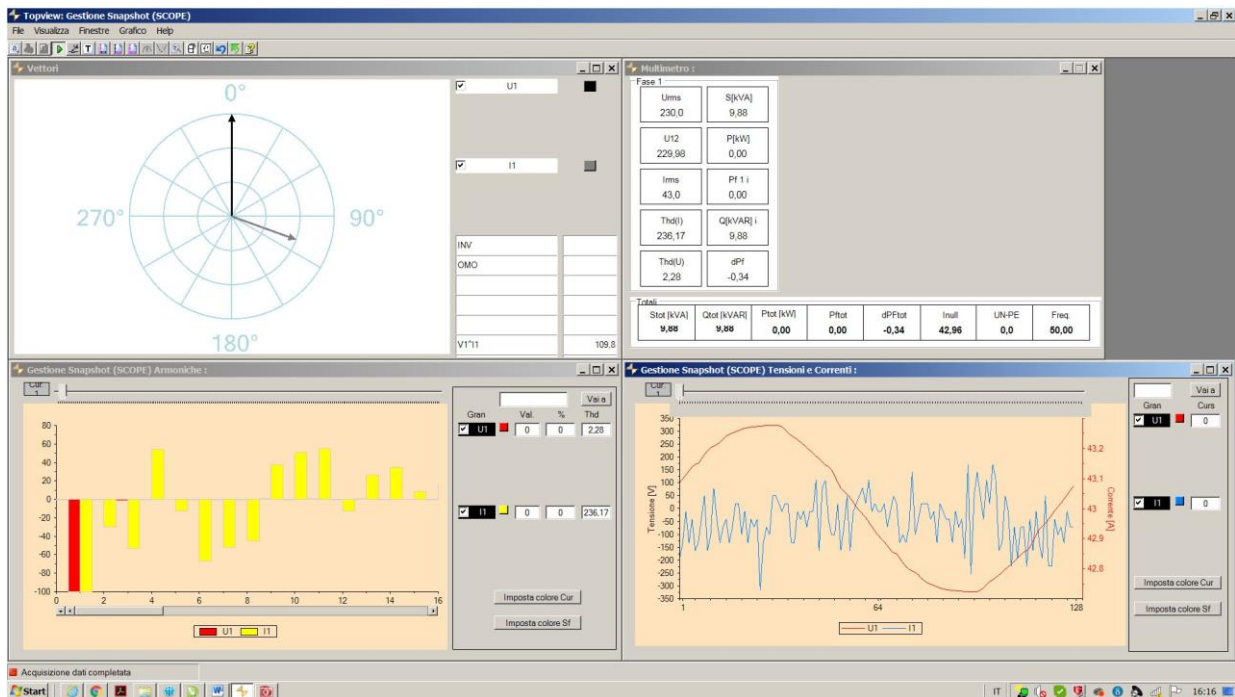

Fig. 20: Real-time visualization of parameters
- Click on the **"Next"** button to open the real-time visualization of values in the form of tables, waveforms, harmonics graphs and vector diagram, as shown in the Fig. 20